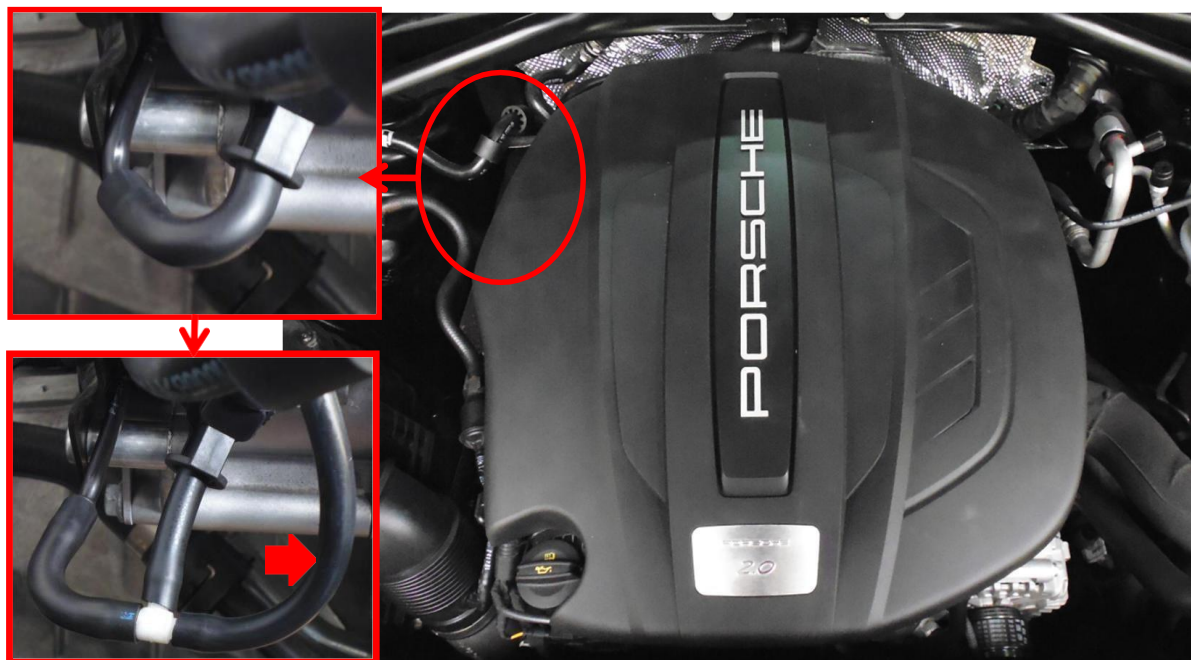
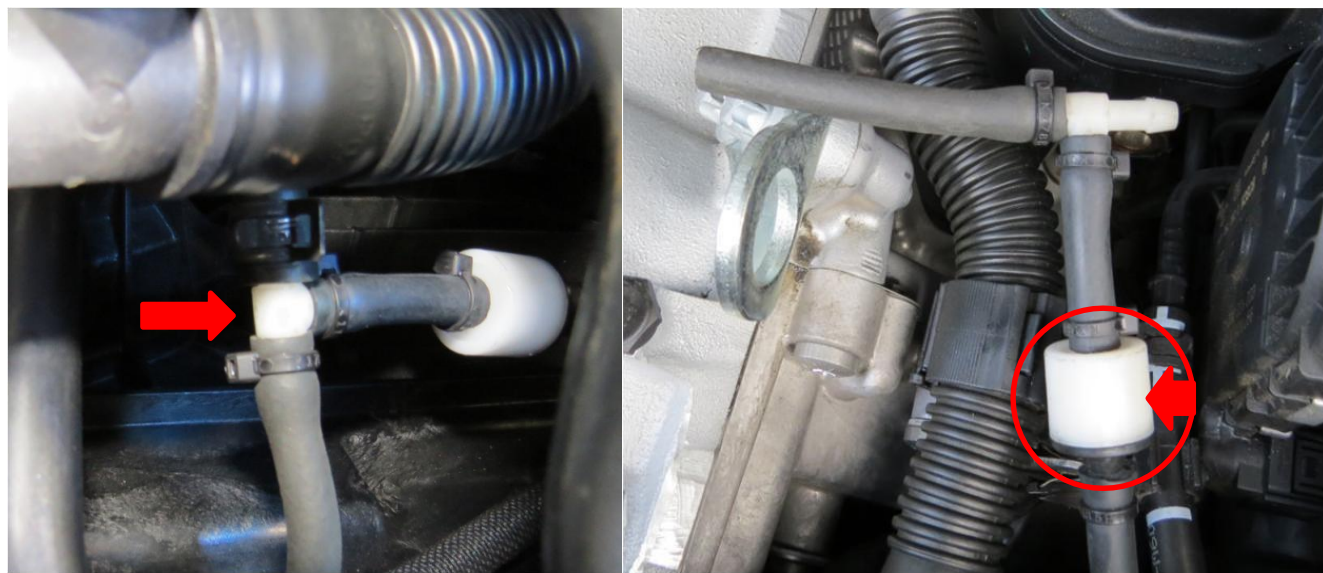

Figure 3-3
Figure 3-4
2. Remove the vacuum line (Figure 3-3) and use the three-way connector to the vacuum source also attach with the one way valve (Figure 3-4)